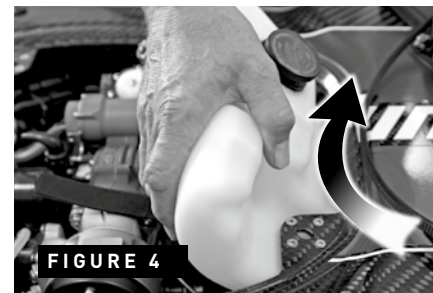

FIGURE 4
MODE2: CHARGE – it is intended for charging between the individual rides. Check the default parameters preset by the manufacturer displayed on the screen – FIGURE 4 a.
MODE3: STORAGE – it is intended for charging for storage. Check the default parameters preset by the manufacturer displayed on the screen – FIGURE 4 b.
4) Move the tank out upwards – FIGURE 4.